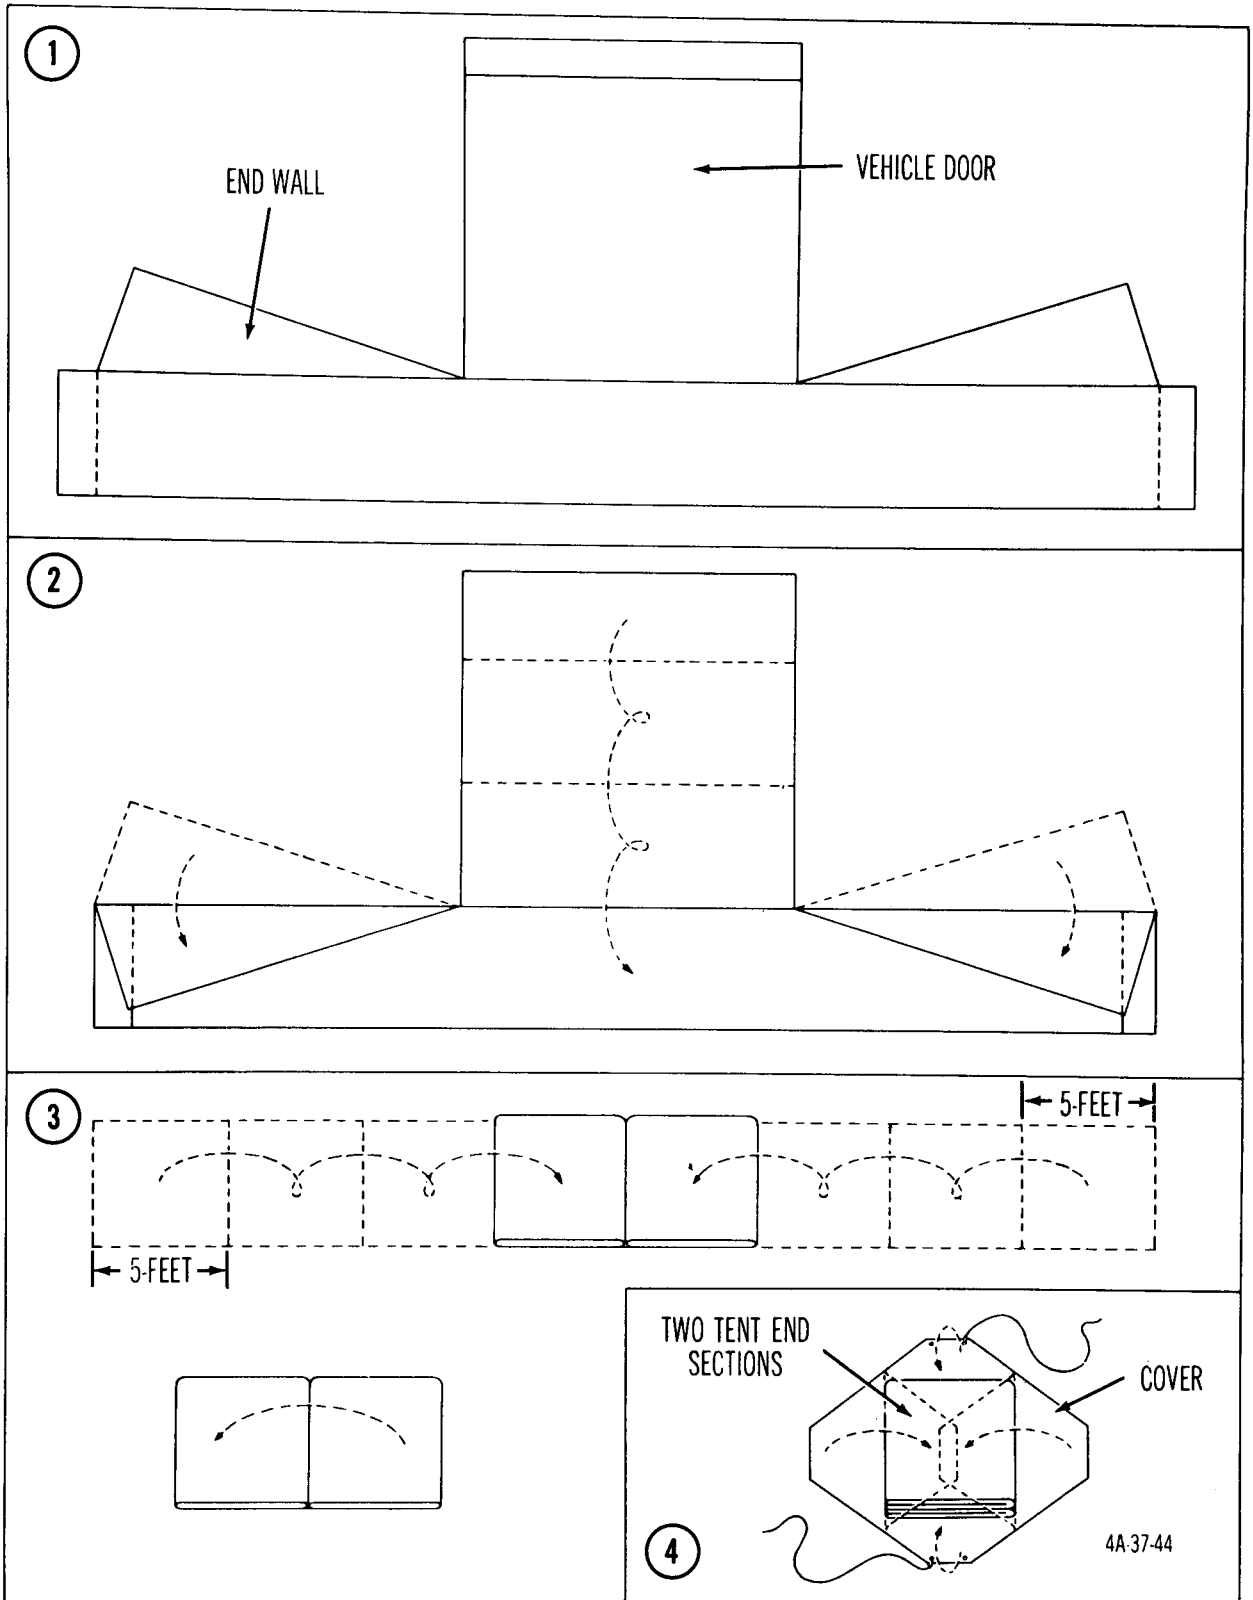

Figure 61. Folding and packing tent end sections of tent, frame-type, maintenance, medium light metal.
(3) *Folding outer fabric end sections* (fig. 61).